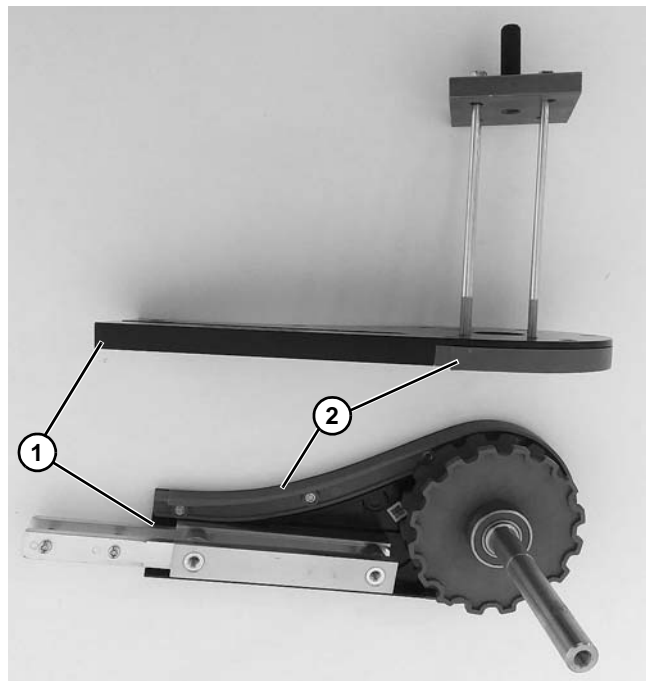

Figure 114
7. Remove the head plates (**Figure 114, item 1**) from the drive tail.